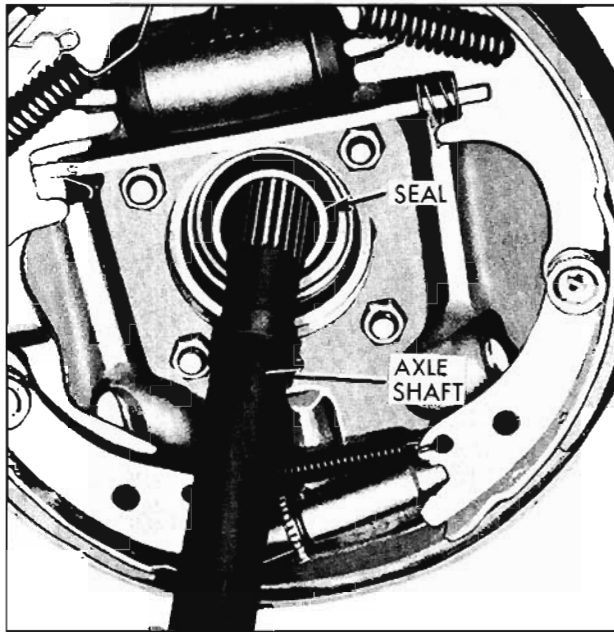

Fig. 10-107 Removing Axle Shaft Seal
2. Using axle shaft as a lever, push down on shaft until seal is pried from housing. (Fig. 10-107)